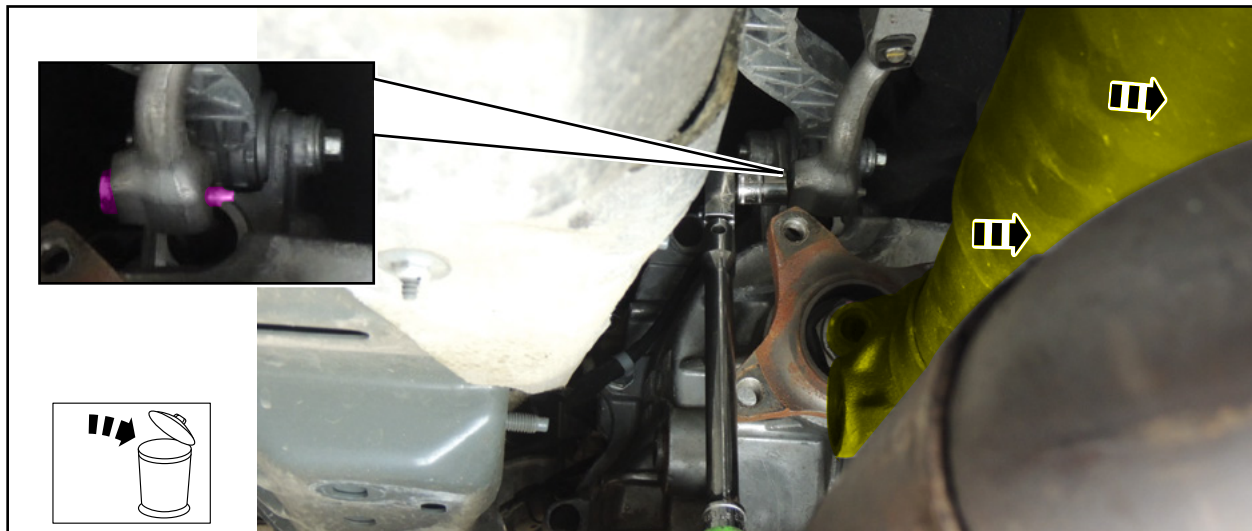

FIGURE 14
15. Position the driveshaft to the right hand (RH) side and remove and discard the gearshift lever threaded pin. See Figure 14.
21. Position the driveshaft to the RH side. See Figure 14.
22. Install the *new* gearshift lever threaded pin. See Figure 14.